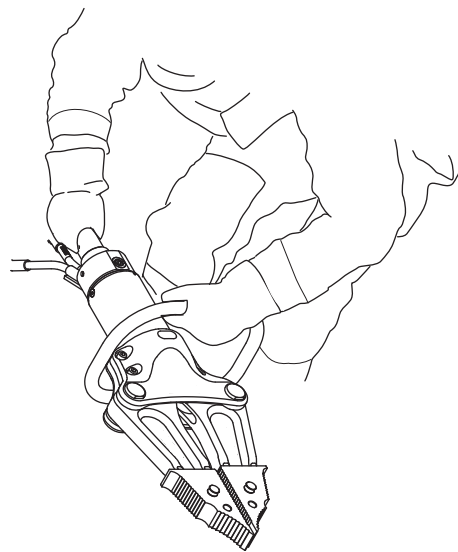

Fig. 7
- Always keep one hand on the handle and the other on the control valve (Fig. 7) when operating the tool.